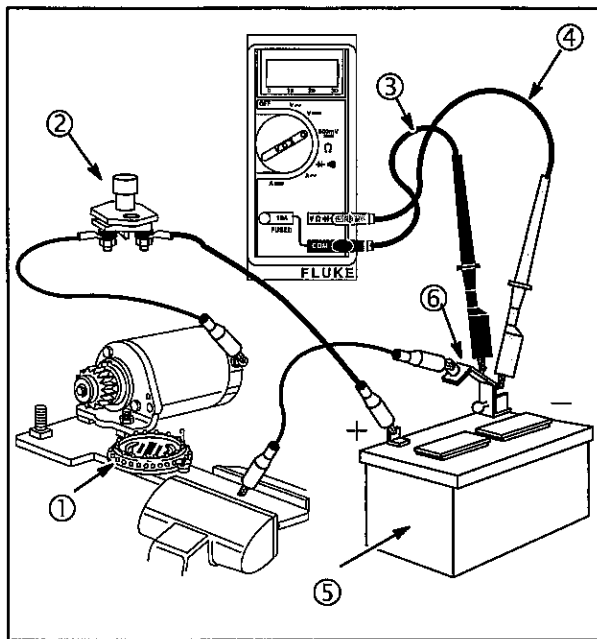

Fig. 51
2. Clamp test bracket in vise, **Fig. 51**.
3. The DC Shunt (6) **MUST** be installed on the **NEGATIVE (-)** battery terminal as shown in **Fig. 51**.
4. Insert **RED** test lead (4) into **VΩ** receptacle in meter. Connect to **RED** post terminal on shunt.
5. Insert **BLACK** test lead (3) into **COM** receptacle in meter. Connect to **BLACK** post terminal on shunt.